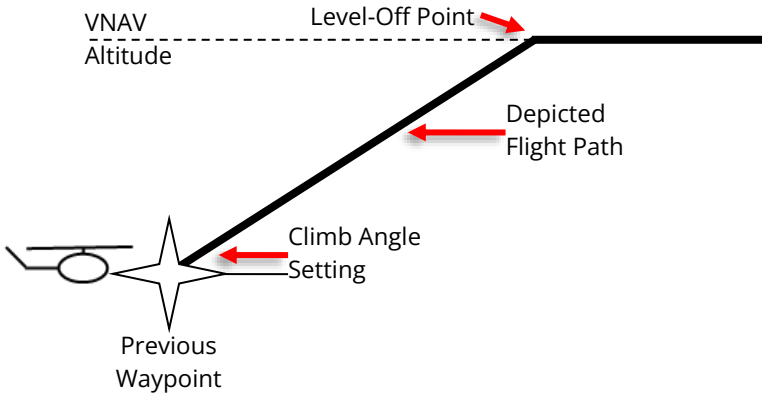

Figure 6-8: Highway in the Sky (Geo-Referenced Backward)
- 3) The climb angle setting emanating from the previous waypoint VNAV altitude (geo-referenced backward) (Figure 6-8).